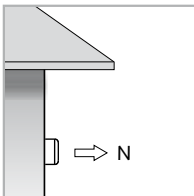

Fig. 3
3. For a better performance, you should place the twilight switch northerly (See Fig. 3).